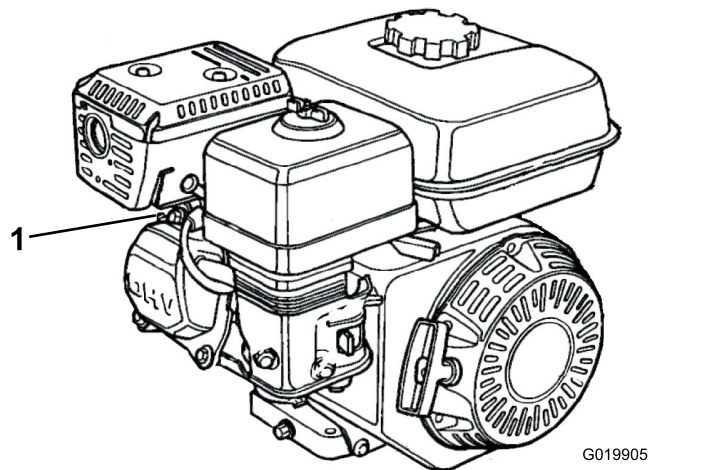

Figure 31
2. Disconnect the spark-plug wire from the spark plug (Figure 31).